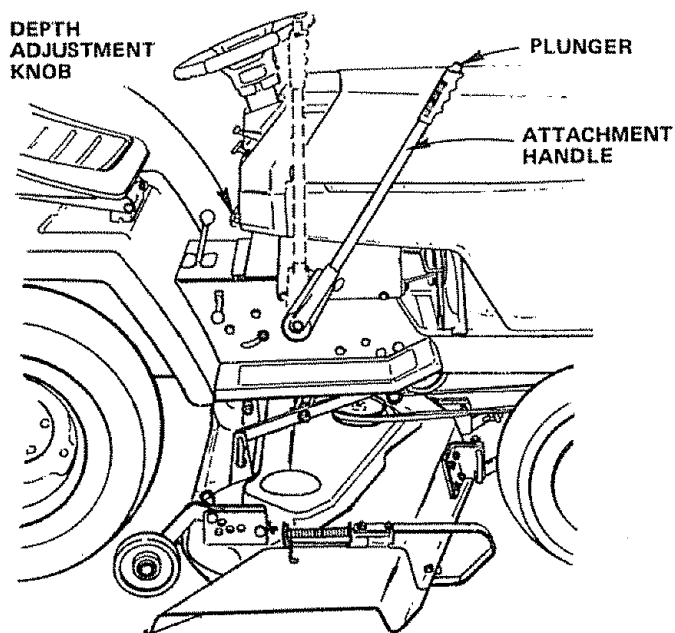

FIGURE 25
5. Use Attachment Handle to lower mower into cutting position. Start mowing at slow speed and increase ground speed by increasing throttle as conditions will permit. Average cutting height is approximately 2 - 1/2 to 2 - 3/4 inches. Height of cut can be adjusted by means of the Depth Adjustment Knob (Fig. 25). Turn Depth Adjustment Knob (clockwise (↻) or counterclockwise (↺)) to match pre-selected Lift Control Lever mowing height.